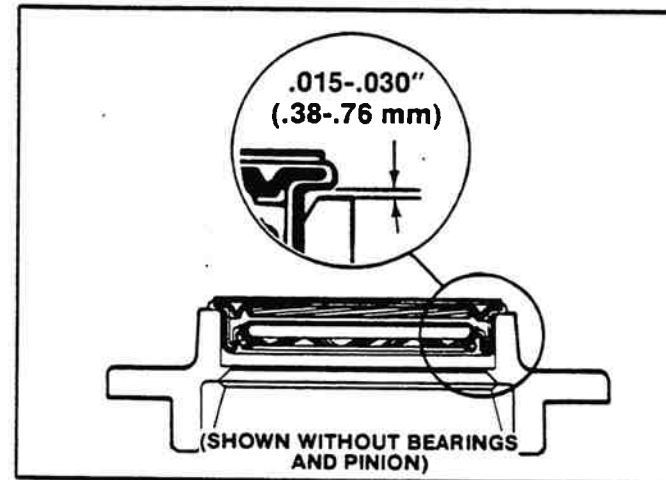

Figure 2-55. Checking Seal Gap.
- After the triple-lip seal is installed, a gap of approximately .015 to .030 inch (.38 to .76 mm) between the flange and bearing cage is normal (Figure 2-55).